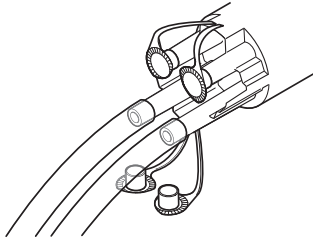

Figure 4 Attach Tubing To Manifold
3. Attach suction tubing to the manifold port(s) (Figure 4). Use 5/16 in. [7.9 mm] inner diameter suction tubing or 1/4 in. [6.4 mm] inner diameter suction tubing with a 5/16 in. [7.9 mm] adapter, as required.